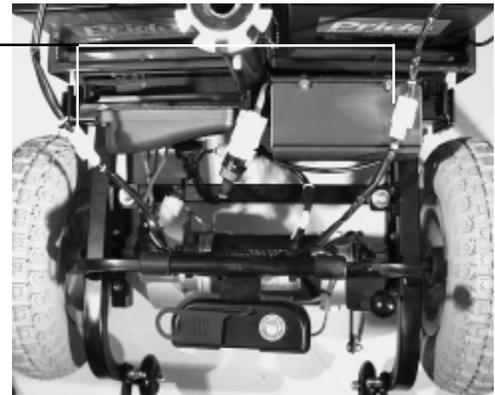

Figure 13. Battery Harnesses
5. Disconnect the battery straps, then unplug both battery harnesses. See figure 13.
10. Connect the 2-pin battery harnesses into the mating harnesses that extend from the electronic controller module. See figure 13.